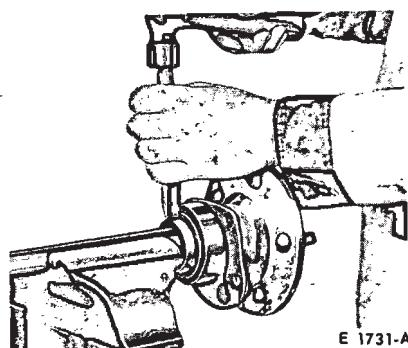

FIG. 4—Removing Rear Wheel Bearing Retainer Ring
4. If the rear wheel bearing is to be replaced, loosen the inner retainer ring by nicking it deeply with a cold chisel in several places (Fig. 4). It will then slide off easily.